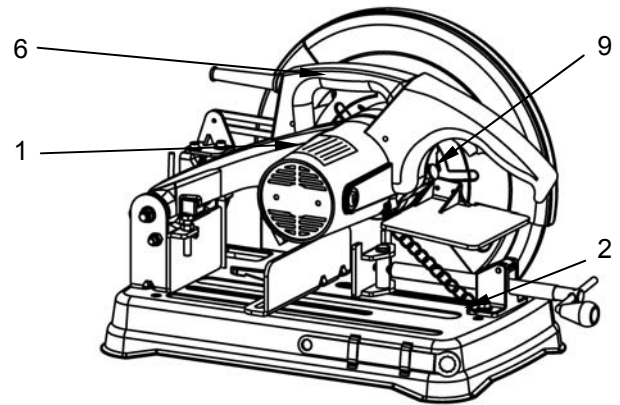

Fig.5
1. Warning Label- Please read the **warning label** before use as shown Fig. 5.
2. Chain- For easy carrying and storage, the Metal-Cutting saw can be clamped in the down position by means of the hold down chain. To move the cutting head to the up position, simply unhook the chain from the handle housing as shown Fig. 5.
6. Carrying Handle- This handle is built into the unit to move it from one location to another. Before attempting to pick up the unit by the carrying handle always clamp the cut off saw power head in the down position using chain (#2) as shown Fig. 5.
9. Arbor Lock- Allows the user to keep blade from rotating while tightening or loosening arbor screw during blade replacement or removal as shown Fig. 5.